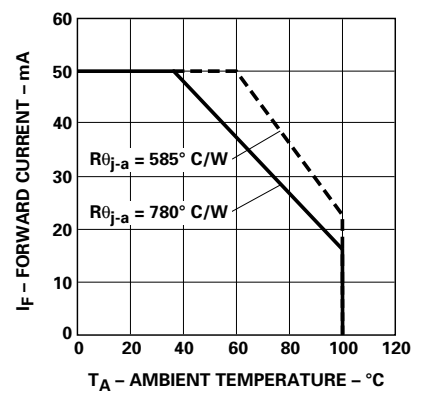

Figure 4. Maximum Forward Current vs. Ambient Temperature.
1. Derate linearly as shown in Figure 4.